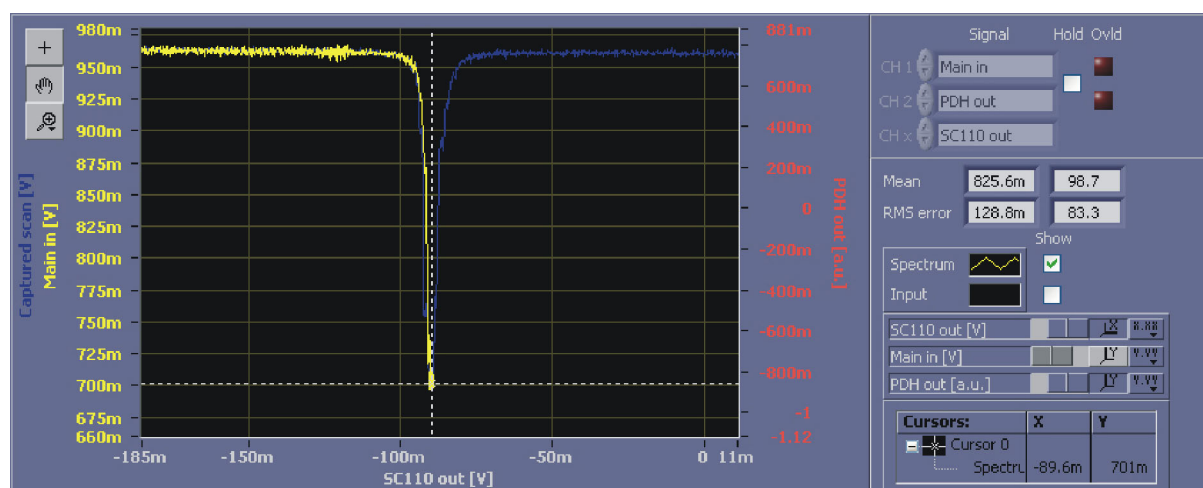

Figure 56 AutoLock display after triggering the lock (LI/PDH: Lock to extremum)
- 20a. To initiate the lock perform a right mouse click to access the context menu and select *LI/PDH: Lock to extremum*. The trace changes its color (here from yellow to blue) to show that the actual trace is captured in the background. During the next scan the lock is triggered. Figure 56 shows the AutoLock display while the lock is triggered. The blue trace is the captured signal of the last scan. The yellow trace is the scan during which the lock is triggered. You can see that the trace stops at the selected peak. After a while the yellow trace disappears and there is only a scatter plot left. The interpretation of this plot and the optimization of the lock can be found in section 10.2.¹⁷